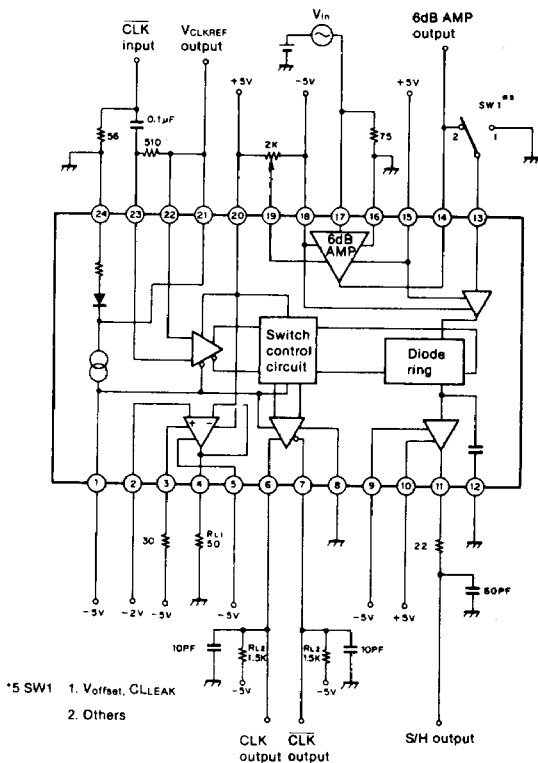

Fig. 3
S/H section (see Fig. 3)
(RLI = 50Ω. see Fig. 3)
6dB amp section (see Fig. 3)
CLK OUT section (see Fig. 3)
-2Vref amp section (see Fig. 3)